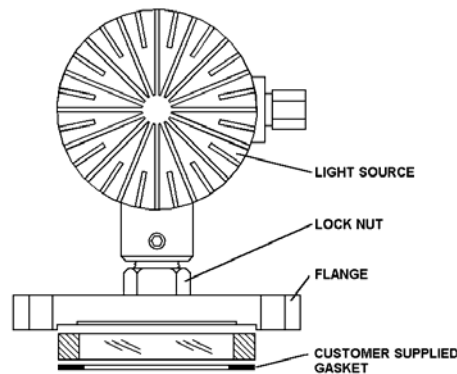

Fig 5.3 Glass Wetted Flange Mounted Light Installation
- ❑ Install the Cauty fuseview sightglass onto the weld pad or nozzle. The flush side of the fuseview should face the mounting pad (ref Fig 5.3 above). Install the Cauty light/light pipe assembly onto the fuseview.